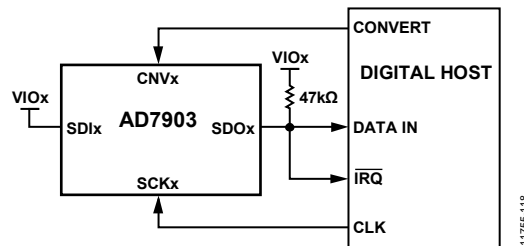
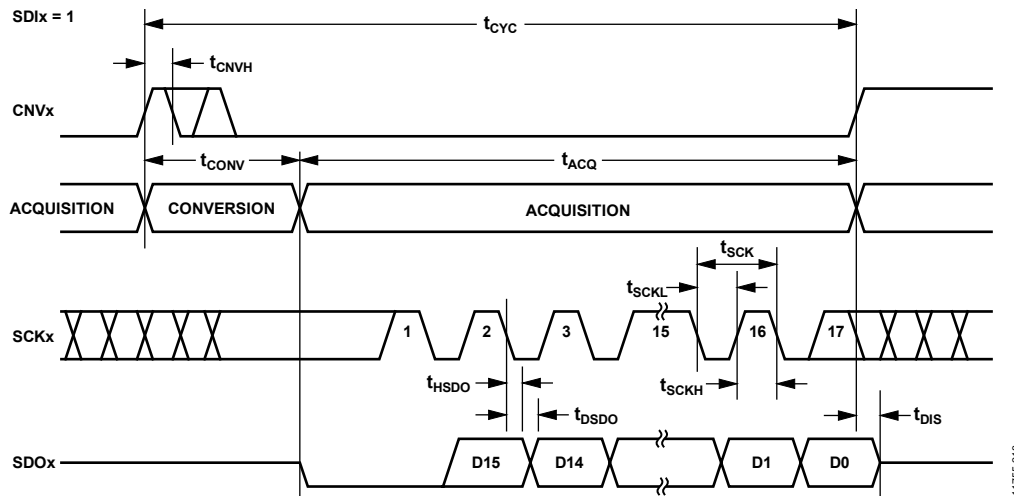
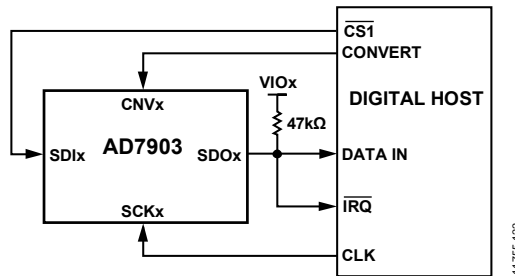
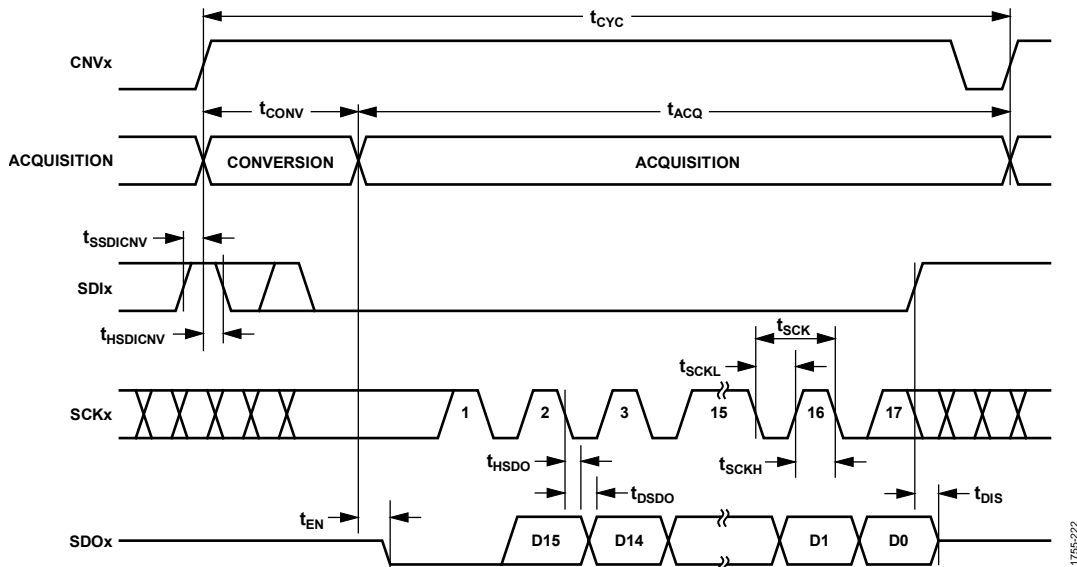

Figure 41. \overline{CS} Mode, 3-Wire Interface with Busy Indicator Connection Diagram (\overline{SDIx} High)
Figure 42. \overline{CS} Mode, 3-Wire Interface with Busy Indicator Serial Interface Timing (\overline{SDIx} High)
Figure 45. \overline{CS} Mode, 4-Wire Interface with Busy Indicator Connection Diagram
Figure 46. \overline{CS} Mode, 4-Wire Interface with Busy Indicator Serial Interface Timing
- In $\overline{\text{CS}}$ mode if CNVx or SDIx is low when the ADC conversion ends (see Figure 42 and Figure 46).
The connection diagram is shown in Figure 41, and the corresponding timing is shown in Figure 42.
The connection diagram is shown in Figure 45, and the corresponding timing is given in Figure 46.